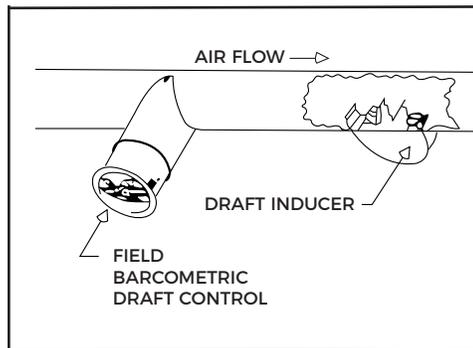

Figure 2
1. Always install draft inducer between draft hood and/or barometric draft control and chimney. (See Figure 2)